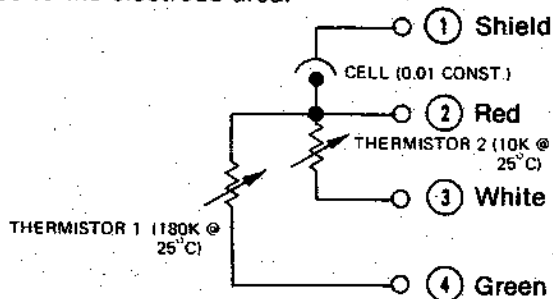

FIG. 3 Type 211 Cell Wire Connections
1.3.3. Cells (or sensors) — The cell recommended for use with the Thornton 800 Series (822 and 832) controllers is the Thornton Type 211 (FIG. 2 - Appendix). The cell constant* is 0.01/cm. and incorporates two thermistors (FIG. 3).
2.2.1. Cell Wiring (FIG. 3) — The cell wires are always shielded with the shield connecting to the outer electrode of the cell. Two sets of cell wires may be connected to the left hand terminal strip (TB1) on the rear PC board. A factory purchased cell patch cord will be numbered on the end terminals 1-4 corresponding to 1-4 of TB1. Be sure 1-4 of cell 1 are separated from 1-4 of cell 2.